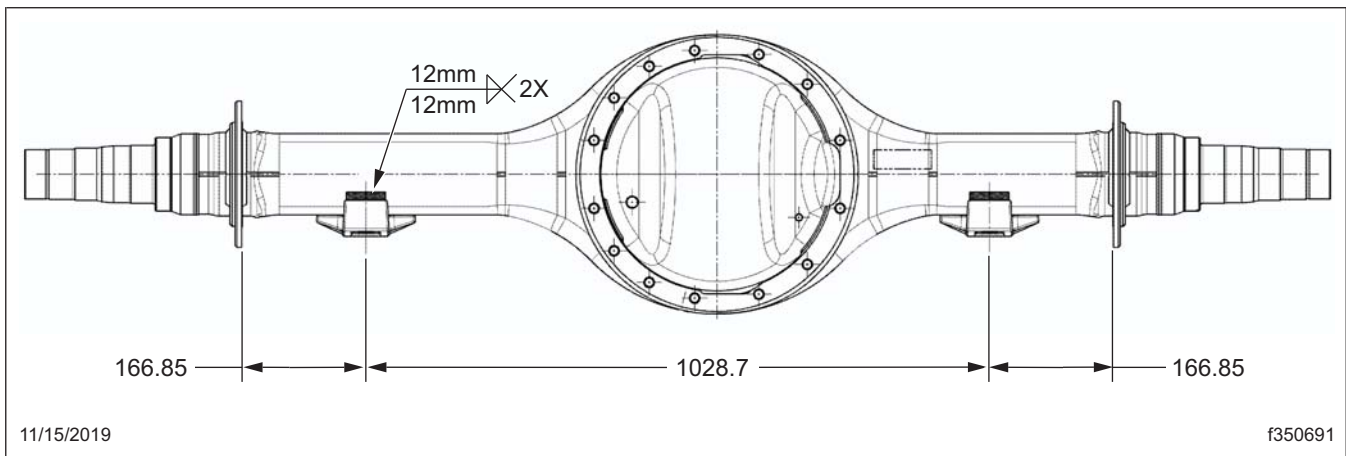
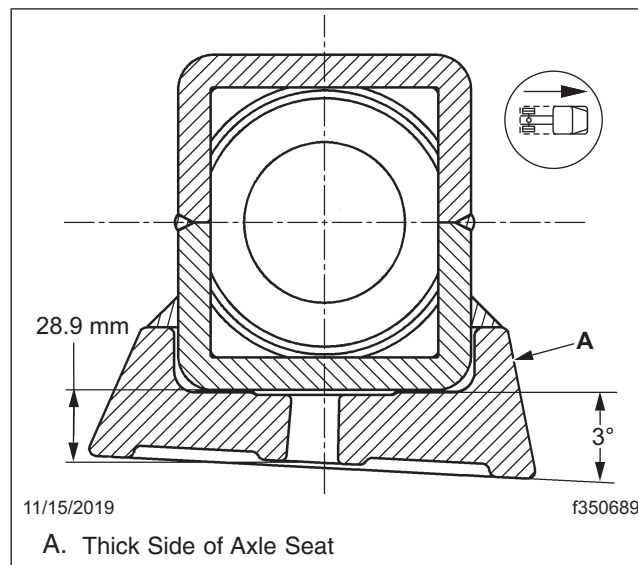

Fig. 2, Locating the Center of the New Axle Seat
Fig. 3, Axle Seat
12. Locate the center of the new axle seat 6.57 inches (166.85 mm) from the inside of the brake flange with the thick side of the axle seat located on the forward side of the axle housing. See Fig. 2 and Fig. 3.
13. Complete the .5 inch (12 mm) weld. See Fig. 2